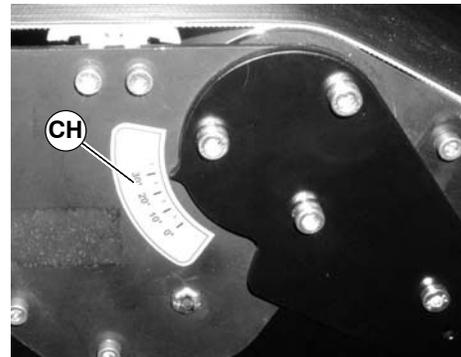

Figure 55
3. Move conveyor to desired angle as indicated by angle label (CH of Figure 55).